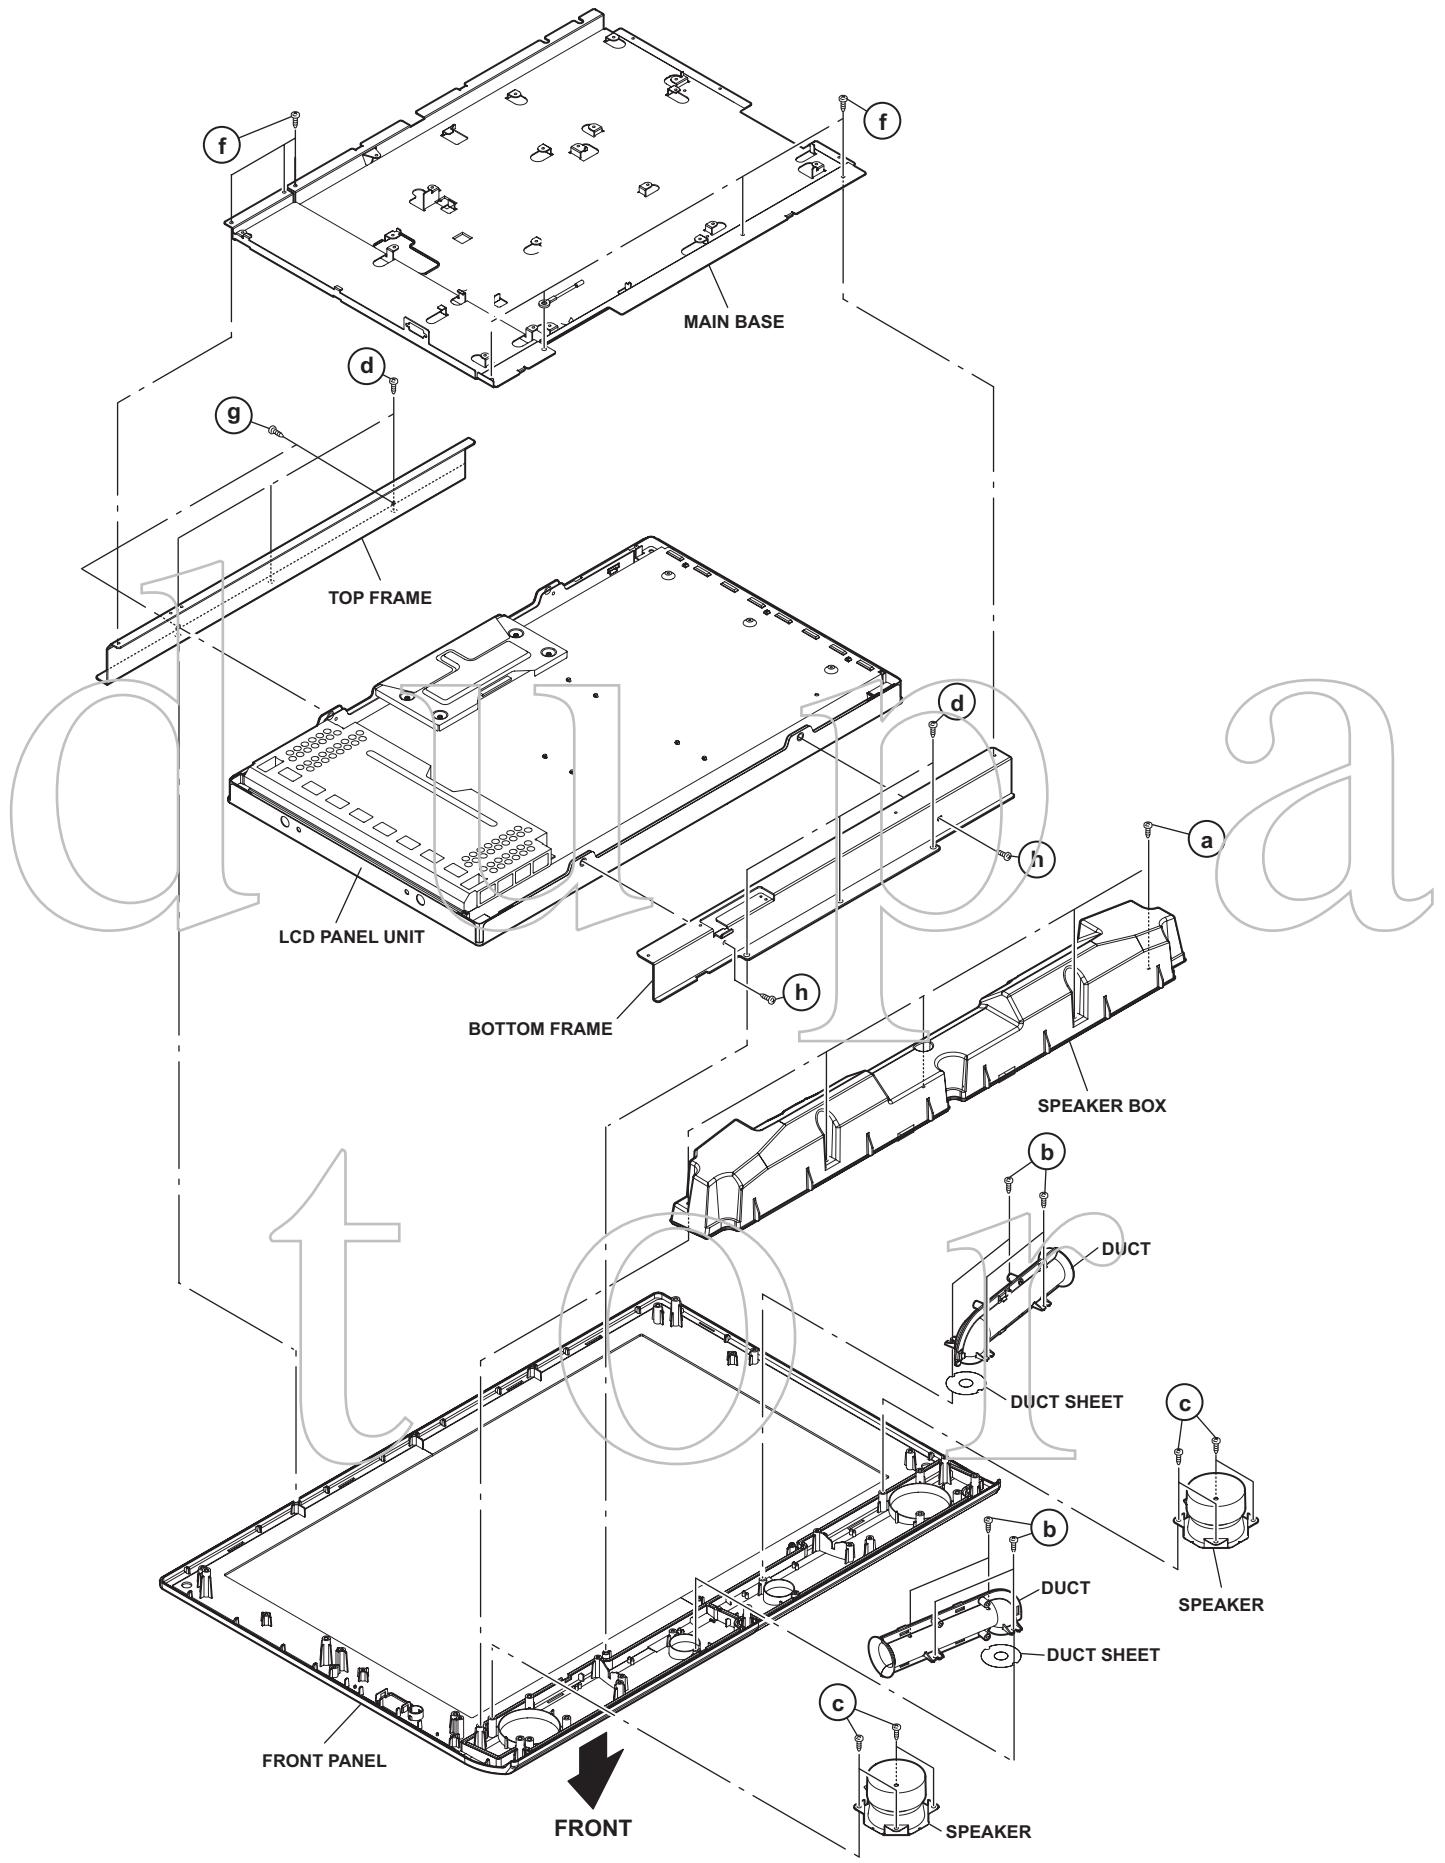

Fig.2
3.1.8 REMOVING THE SPEAKER (Fig.2)
3.1.9 REMOVING THE LCD PANEL UNIT (Fig.2)